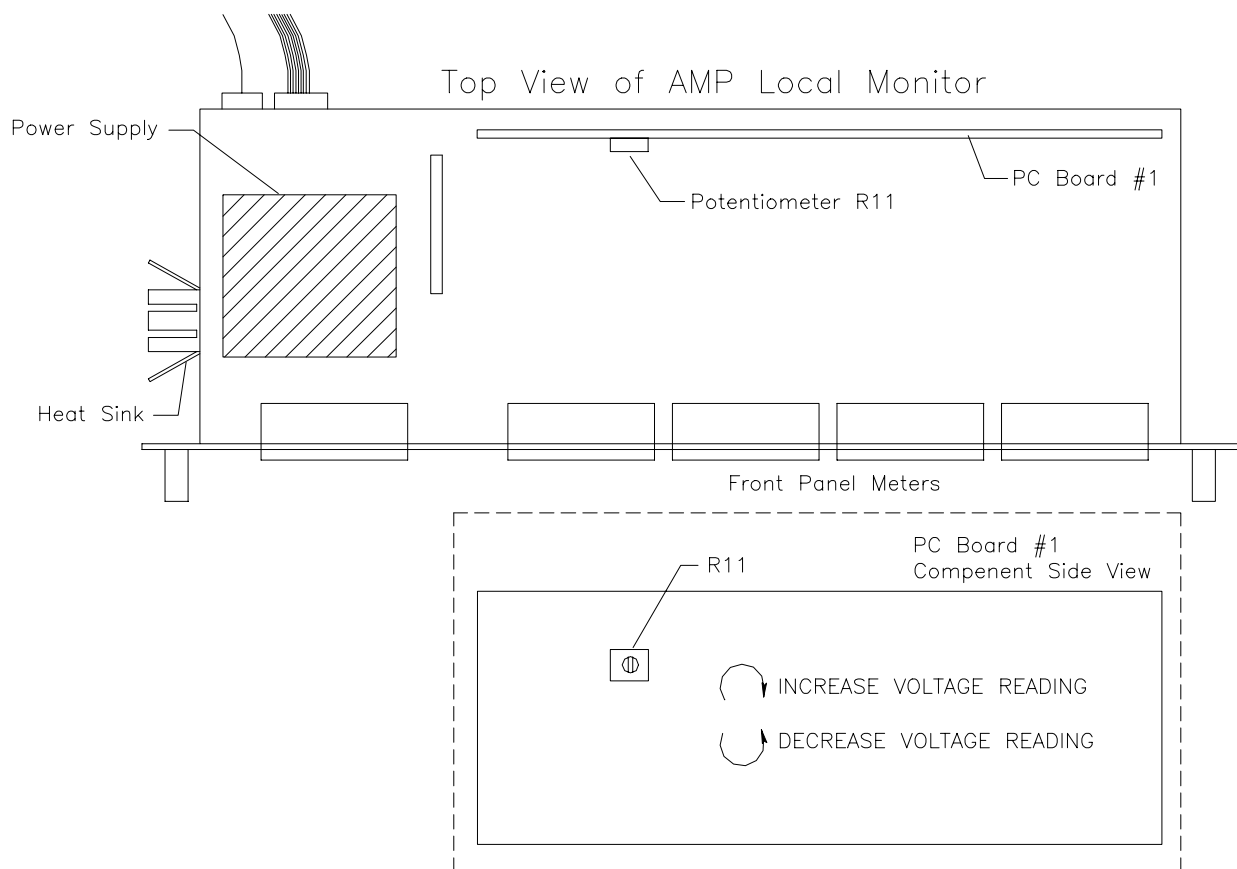

Figure 6-7 Amp Local Monitor AC Line Voltage Calibration
3. Locate potentiometer R11 on the vertically mounted circuit board mounted on the chassis rear panel (see Figure 6-7).
4. To increase the reading displayed on the PMT, rotate pot R11 clockwise. To decrease the reading displayed on the PMT, rotate pot R11 counter-clockwise (see Figure 6-7).